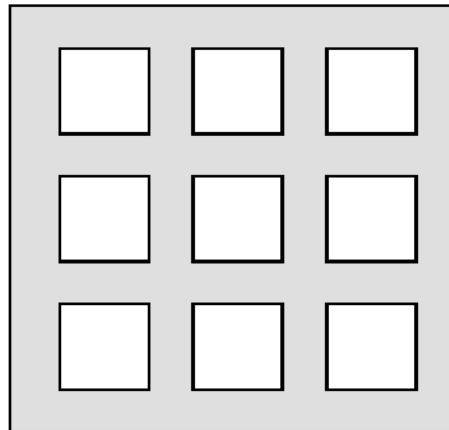

Figure 8: Solder paste application on exposed pad
3. For the PCB thermal pad, solder paste should be printed on the PCB by designing a stencil with an array of smaller openings that sum to 50% of the QFN exposed pad area. Solder paste should be applied through an array of squares (or circles) as shown in Figure 8.